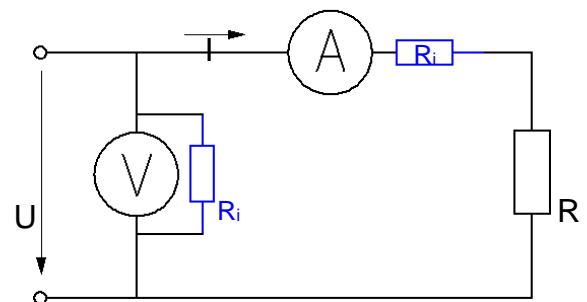

Fig. 7.1.3: Voltage error circuit
This applies in particular when voltage and current at a consumer, are to be measured at the same time. The method of connecting both test meters depends on the resistance value of the consumer. For low-resistive consumers (Ω), the voltmeter and ammeter are connected as shown in Fig. 7.1.2 (current error circuit). At high-resistive consumers ($k\Omega$ and more), the connections shown in Fig. 7.1.3 are used (voltage error circuit).
- Assemble the **voltage** error circuit in Fig. 7.1.3 on the Board. Set the output of the voltage source to $U = 5 \text{ V}$.